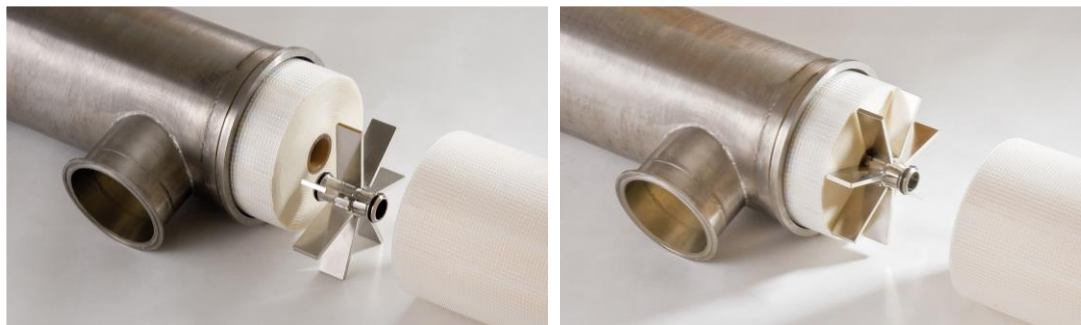

Figure 4. Insert the interconnector into the permeate tube of the installed element.
4. To load elements, lubricate the o-ring seals on the interconnector and the inside of the permeate tube with a thin layer of lubricant and insert the interconnector into the permeate tube of the element (Figure 4).